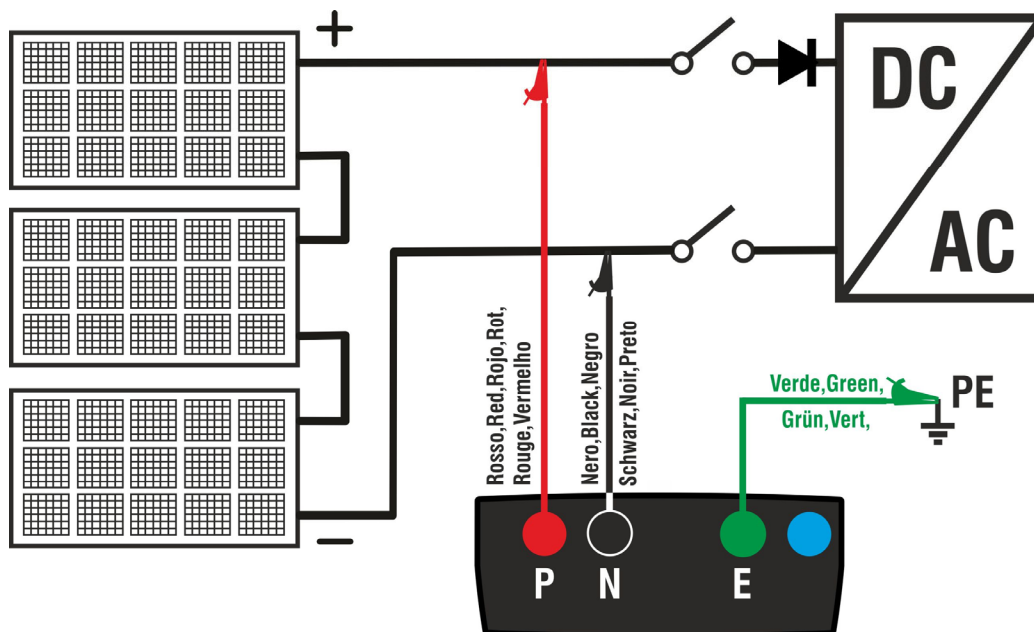

Fig. 6: Instrument connection for insulation measurement in DUAL mode
6. Connect the instrument to the PV string to be tested as shown in Fig. 6. The test can also be performed on several strings in parallel with each other. Remember that any surge arresters connected to the string cables must be disconnected and that it is advisable to measure upstream of any blocking diodes